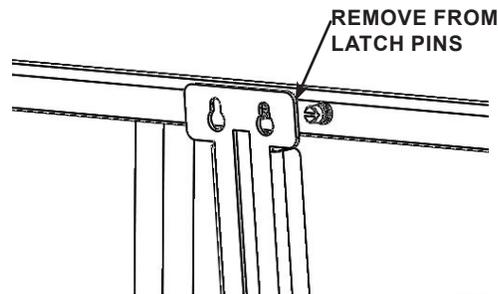

FIGURE 2.8 - Remove Latch Top
STEP 3: Once clear of the keyhole slot, pull the top of the latch bar clear of the latch upper pins. See FIGURE 2.8